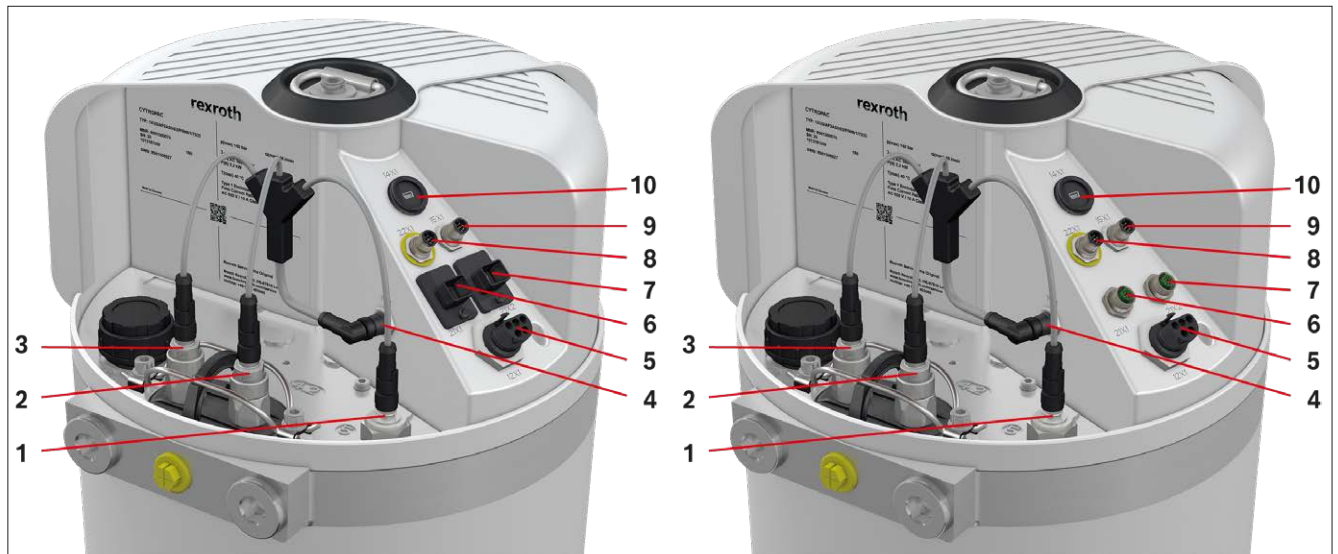

Fig. 25: "Premium" (left) / "Premium M12" (right) configuration electrical connections
- ▶ Connect the connector plug for the 24 V interface to the higher-level machine control via port 15X1, see Fig. 25, item 9.
- ▶ Connect the connector plug for the feed-in / power supply to connection 12X1, see Fig. 25, item 5.
- ▶ Connect the connector plug for the multi-Ethernet interface to the higher-level machine control via port 21X1, see Fig. 25, item 6.